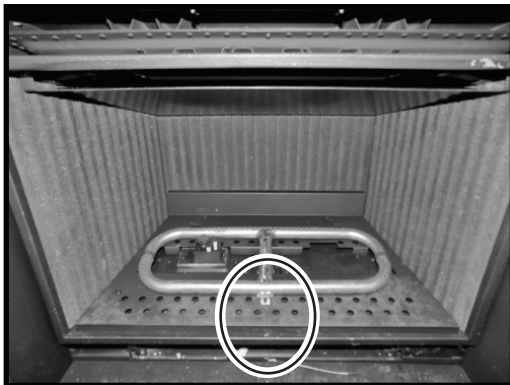

Figure 47: Burner securing screw.
1. Remove the screw holding the burner to the burner tray (Figure 47).